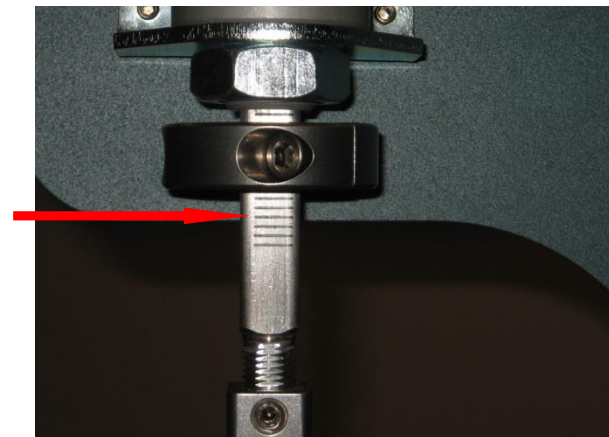

Figure 3
- The graduations on the cylinders represent approximately 0.072 of an inch. (**Figure 3**)
- Re-adjust the stop collars to the desired opening you need and tighten the bolts. (**Figure 3**) See Section 3.2 for details.